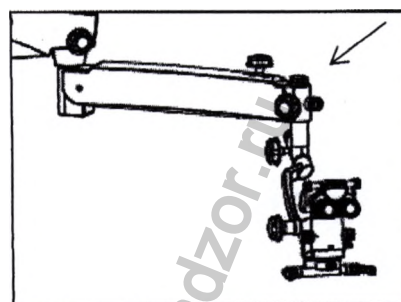

Fig. 18.1
5. Lightning is adjusted with the knob, figure 18.1. To adjust desirable level of lightning rotates the knob clockwise or counter clockwise.